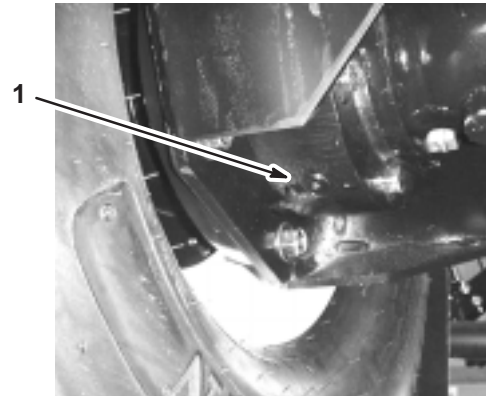

Figure 42
4. Place a pan under the inner drain plug and remove it (Fig. 42).